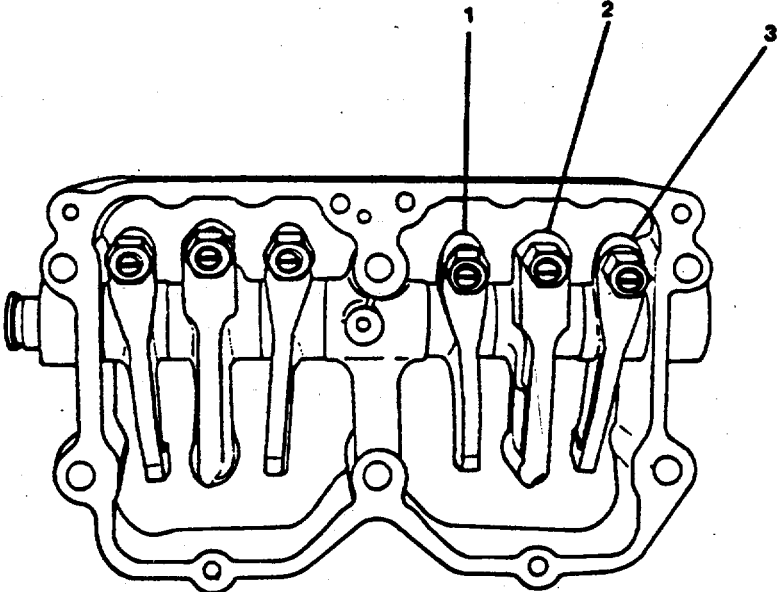

FIGURE 3-15. Installing the Arms and Levers on Shaft.
- d. Install, in their original position, the intake rocker arm (1, FIGURE 3-15), injector lever (2), and exhaust rocker arm (3) as the shaft continues through the rocker lever housing.